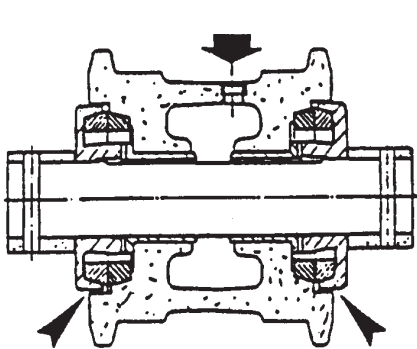

Fig. 3-73 Track roller - air leakage test
1. Check the end play. Check for air tightness by applying air pressure through the oil fill hole. Test pressure should be not more than 87 PSI (6 bar). Fig. 3-73.